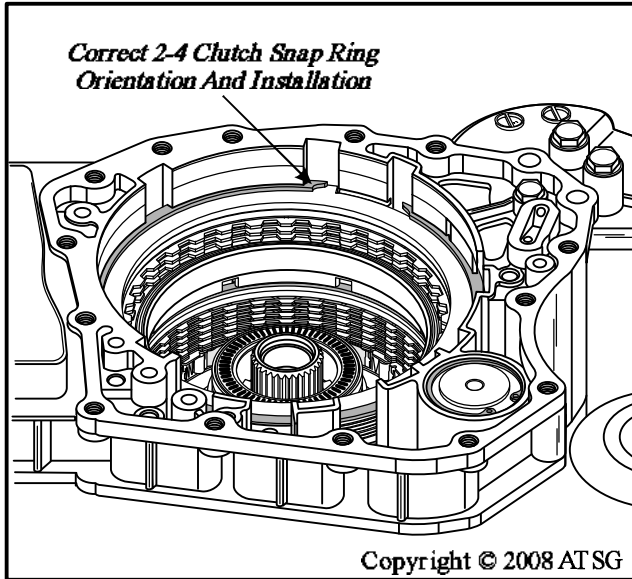

Figure 195
- Note: Snap ring orientation must be as shown in Figure 195.**